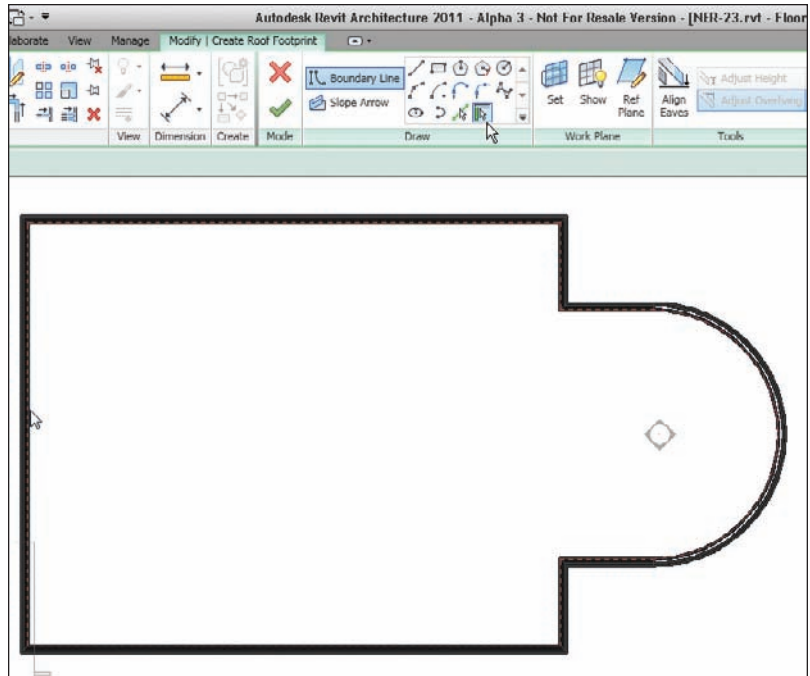

FIGURE 7.3 Adding a sketch line to the perimeter of the building by highlighting one wall and pressing Tab
7. On the Modify | Create Roof Footprint tab, be sure the Pick Walls button on the Draw panel is checked, as shown at the top of Figure 7.3.
8. On the Options bar, uncheck Defines Slope, as shown in Figure 7.3.
11. Hover your pointer over the leftmost vertical wall. Notice that it becomes highlighted. When you see the wall highlight, press the Tab key on your keyboard. Notice that all the perimeter walls highlight. When they do, pick (left-click) anywhere along the wall. This will place a magenta sketch line at the perimeter of the building (see Figure 7.3).